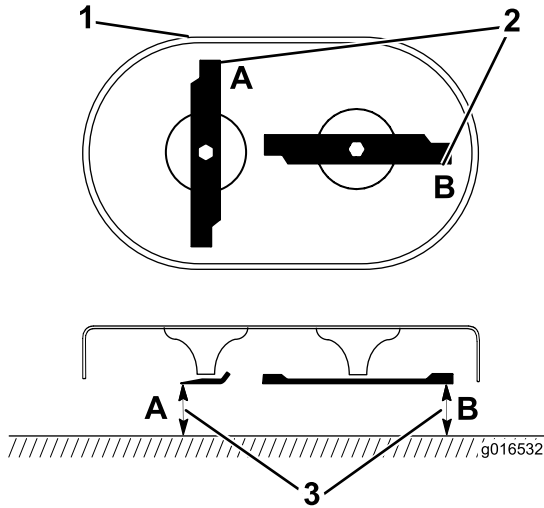

Figure 34
1. Rotate the blades until they are positioned as shown in Figure 34.